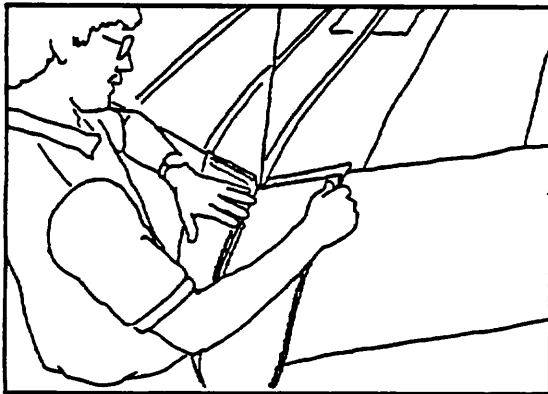

Figure 46
25) Install the nose cone, mating the velcro surfaces together carefully, and making sure that the nose cone lies flat against the sail on both the top and bottom of the sail. (Figure 46, 47)